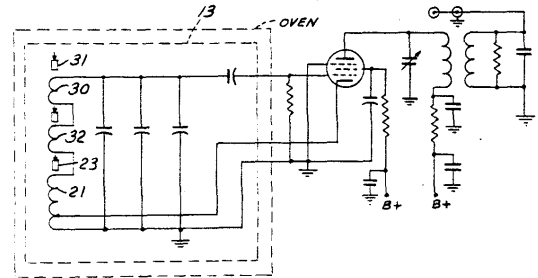

FIG 2 SCHEMATIC DIAGRAM
The Cosmos PTO has three inductor coils instead of two employed by Collins (refer to drawing in Fig. \ and schematic in Fig. 2). There is the familiar main tuning coil (item 21), an endpoint